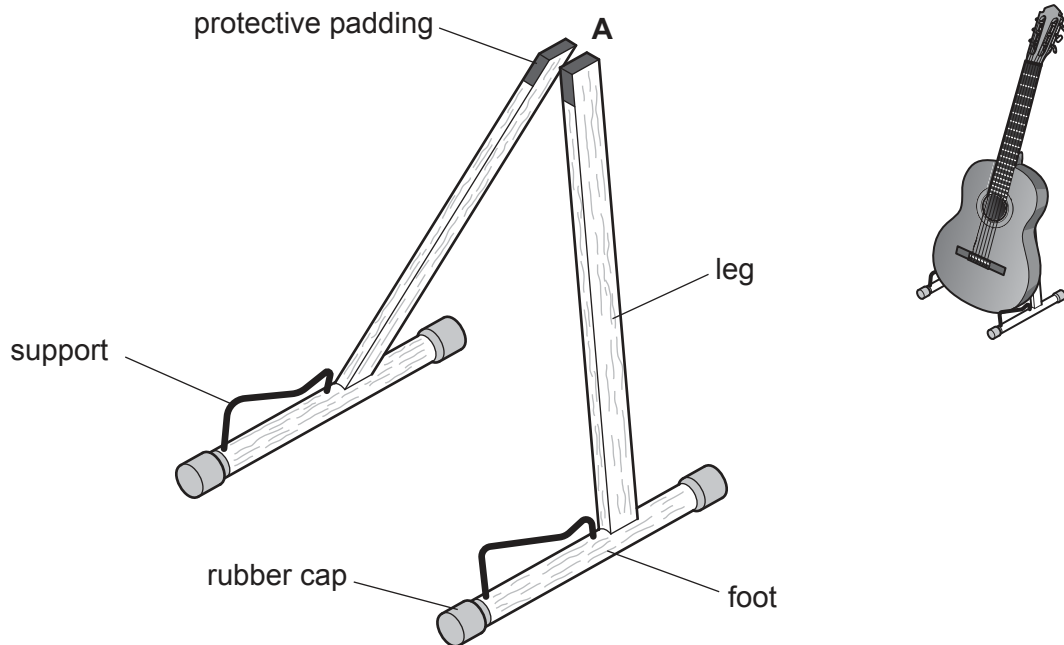

Fig. 11.1
- 11 Fig. 11.1 shows an incomplete design for a guitar stand.
- (c) The legs will be hinged at position **A** shown in Fig. 11.1.
Sketch and name a suitable hinge that could be used at position **A** shown in Fig. 11.1.